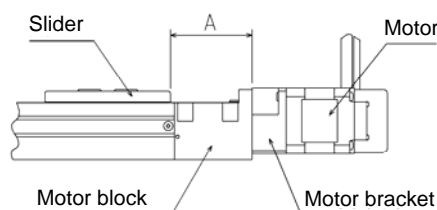

Fig. 5.6-7
- (10) Move the slider to the position shown in Fig. 5.6-7 and tighten the coupling clamp screw. (Clamping torque: 1.0 N·m) (See Para. 5.11.)
- (11) Turn the power on again, return the servo gain values (position and speed) to the previous values, then specify "2" for the home return method of Parameter 2.
- (12) After the power is turned off, then on again, execute the home return and make sure that the actuator is as shown in Fig. 5.6-7.
- (13) As described in 5.7, stretch out the stainless sheet. If stainless sheet is distorted due to moving of the slider (a gap is formed with the side cover), stretch the sheet out again.